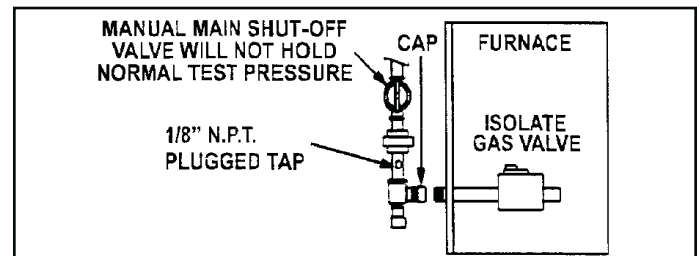

Figure 39.
5. A 1/8" NPT plugged tap or pressure post is located on the gas valve to facilitate test gauge connection. See Figure 39.
When testing gas lines using pressures in excess of 1/2 psig (3.48 kPa), gas valve must be disconnected and isolated. See Figure 39. Gas valves can be damaged if subjected to pressures greater than 1/2 psig (3.48 kPa).